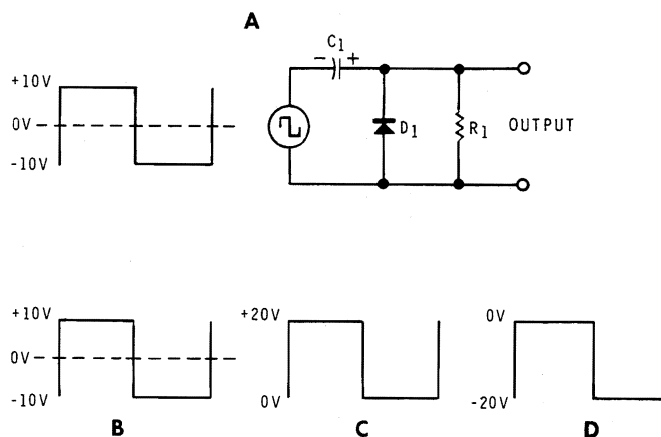

Figure 6-22
27. (0 volts) Therefore, the output of this circuit appears as shown in Figure 6-22 \_\_\_\_\_